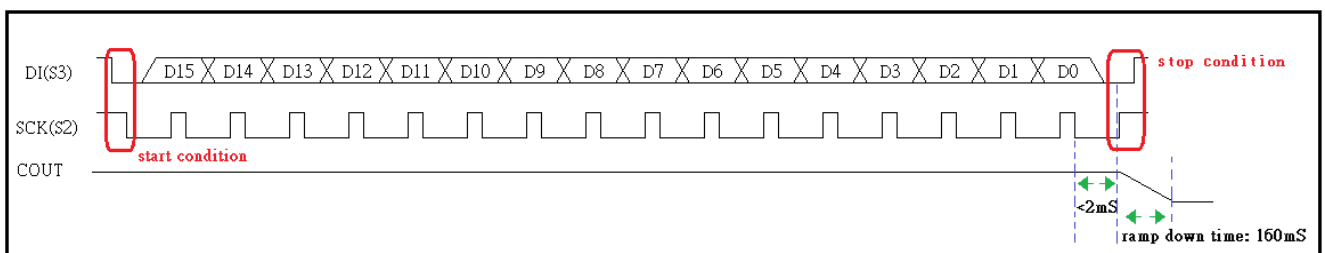

Fig. 16 Power-Down command timing
- a. Command timing reference Fig. 16 Power-Down command timing.